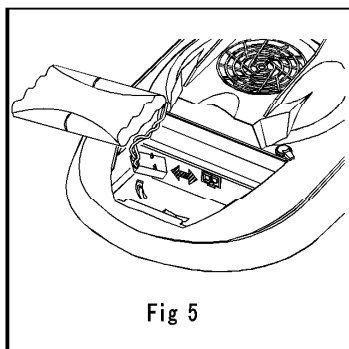

Fig 5
2. Insert fully charged BATTERY PACK into battery compartment as shown. Observe position of wire as shown. (Figs. 5)